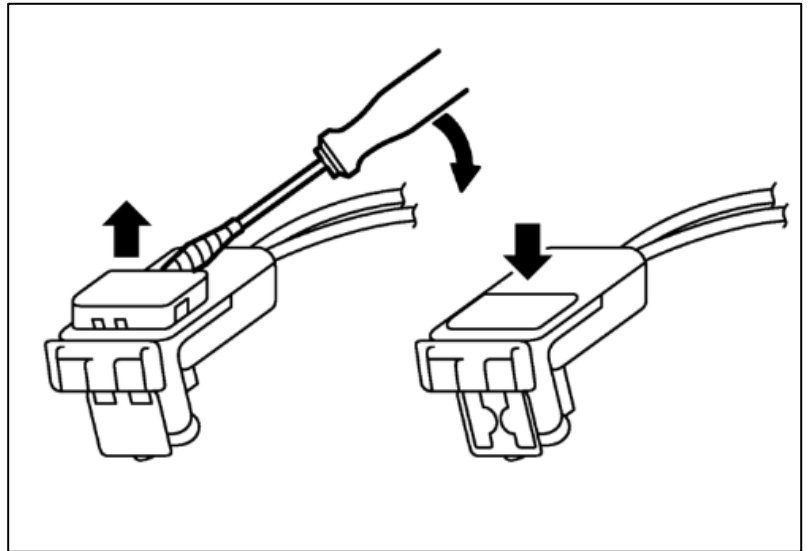

Figure 2
8. Remove the Airbag from the Steering Wheel, it is held on by (2) two connectors. Disconnect them and remove the Airbag. *Figure 2.*
NOTE: The connectors have a small clip that must be pushed upwards to remove. *Figure 2.*